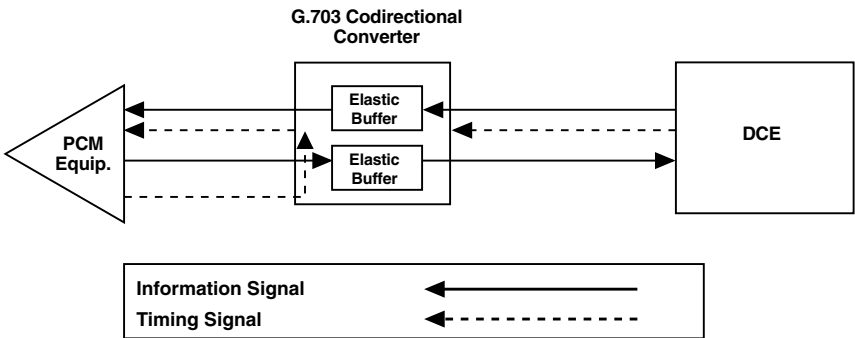

Figure 2-4. LBT-DCE21 Connection.
- X.21 interface only: Receive Clock and Transmit Clock are both inputs to the Converter, which serves as a DTE (see Figure 2-4 on the next page).